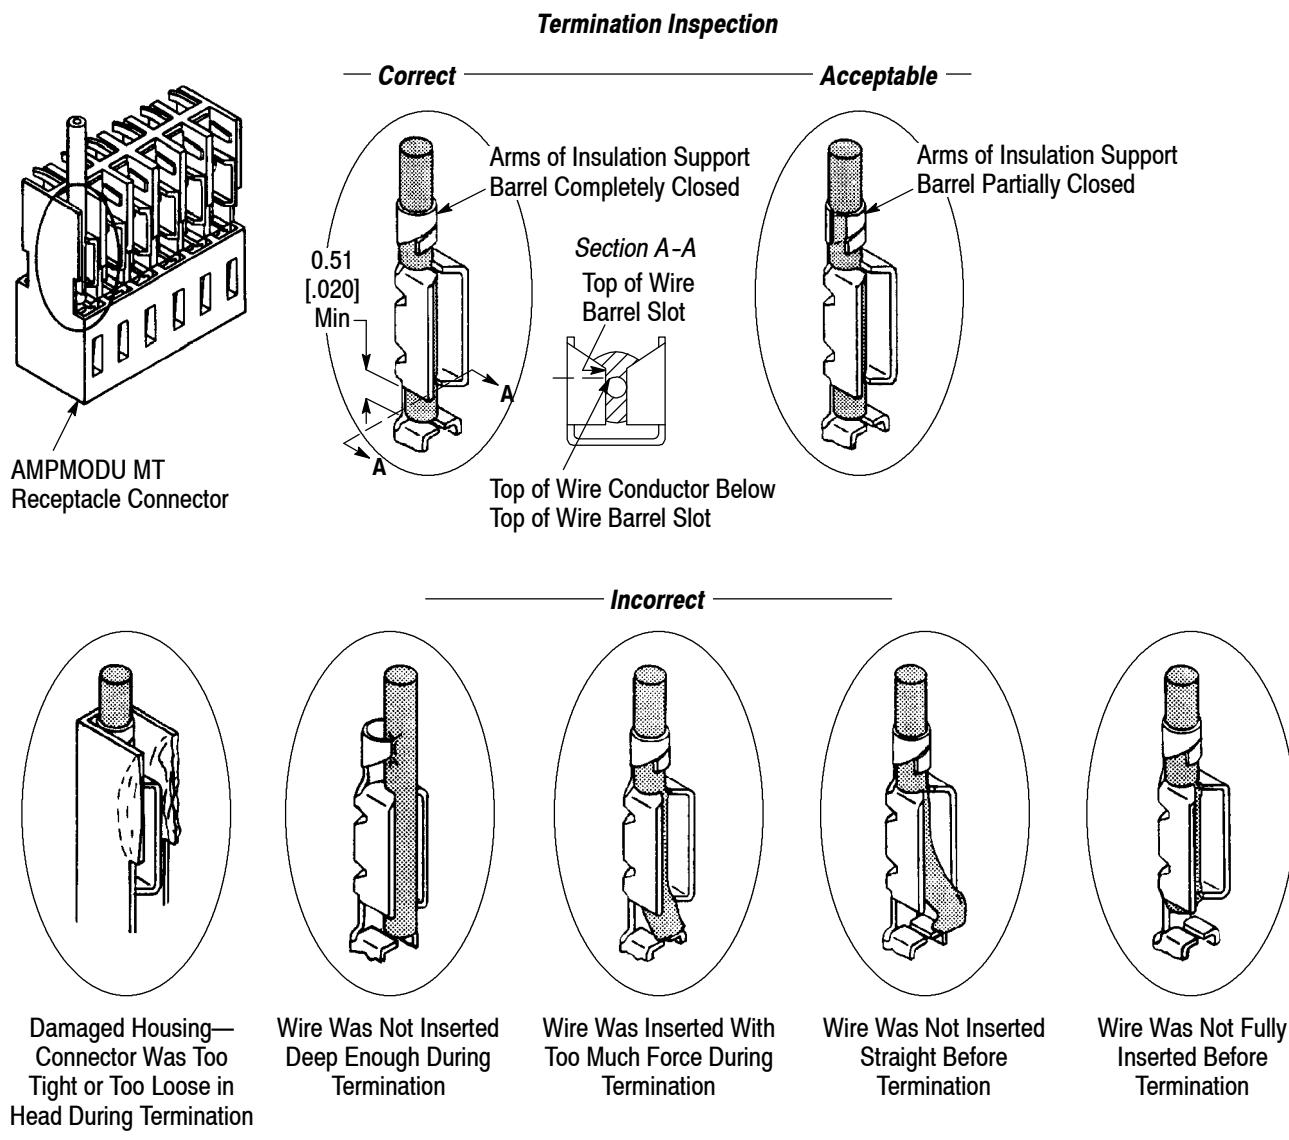

Figure 4
7. Inspect each terminated contact according to Figure 4. If any contact does not meet the requirements, DO NOT use the connector. Refer to Section 5 for adjustments.